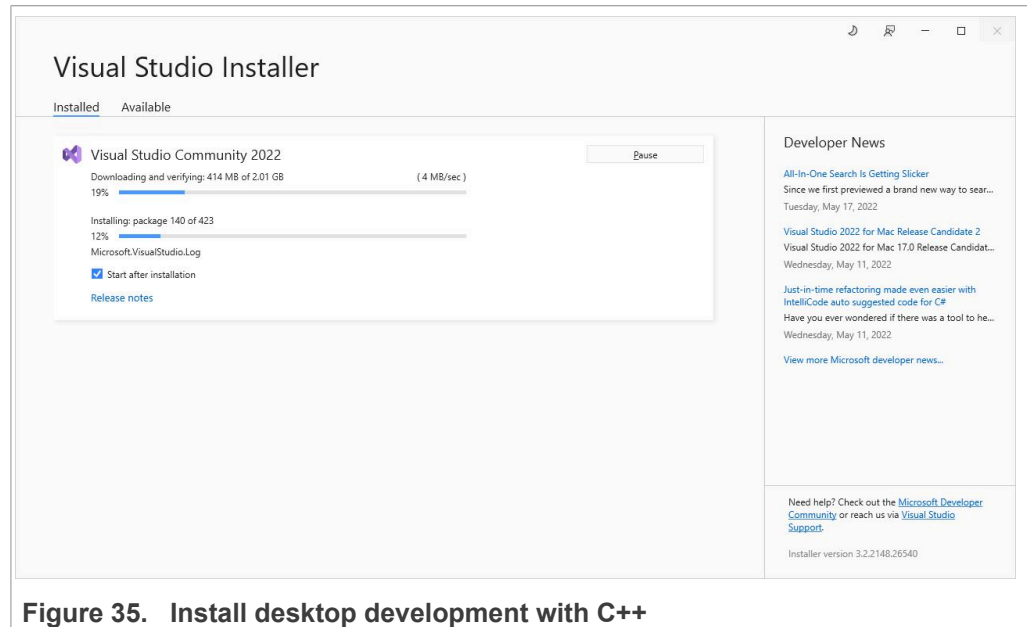

Figure 35. Install desktop development with C++
5. Visual C++ Tools for CMake is installed by default as part of the Desktop development with C++ workload. This process might take several minutes. Figure 35 shows Visual Studio installation wizard as an example: